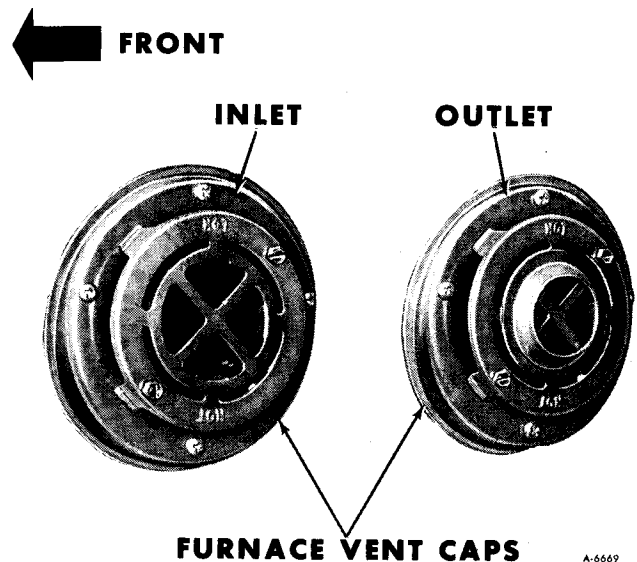

Figure 10—Furnace Vent Caps
**NOTE:** To aid in installation of combustion chamber assembly, remove inlet and outlet vent caps from outside of Motorhome (figure 10).
7. Carefully install furnace vent caps from outside of vehicle (figure 10).